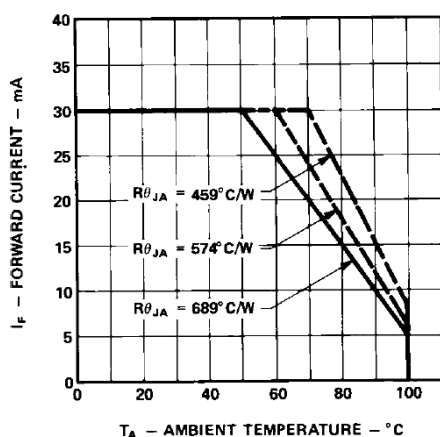

Figure 5. Maximum forward dc current vs. ambient temperature.
3. Derate linearly as shown in Figure 5.